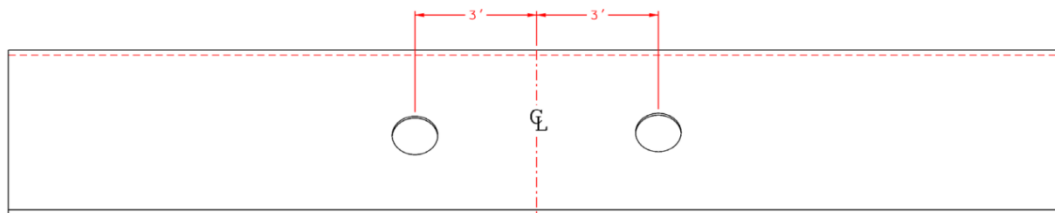
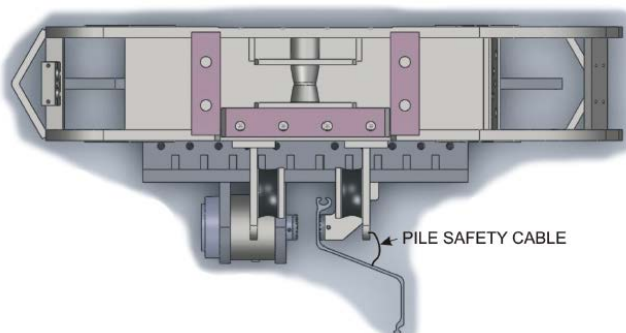

FIGURE 1
FIGURE 2
1. First, check that the lifting capacity of the excavator, at the working radius, exceeds the combined weight of the V-2ESC assembly and the pile. Then, lift the pile using an appropriately sized cable between the lifting point on the Rototilt assembly and the lifting hole in the pile. (Refer to figures 1 and 2). Once the pile is hanging nearly vertical, guide it into the hammer jaws or thread the pile into an already driven pile. Position the jaws on the pile (see figure 2) and close the jaws and start the hammer. The vibration, coupled with the down crowd force of the excavator drives the pile. Do not exceed the down crowd force rating.
2. Cut pile handling holes 2ft. or more above center of the pile on either side of center as required to position pile in jaws as shown in figure 1.
⚠ DANGER The V-2ESC side clamp attachment is designed to handle a single pile with a MAXIMUM weight of 2 TONS. Appropriate pile lifting rigging should be supplied by the end user to handle the pile in a safe manner. Attach cable(s) to lifting eye(s) on the hammer to allow safe handling of the pile and placing it in the jaws as shown in figure 2.